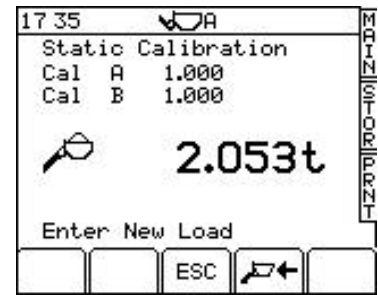

Figure 12
6. Lift the full bucket to the weighing position. The display will give a weight reading and the message "**Enter New Load**" (fig. 12).